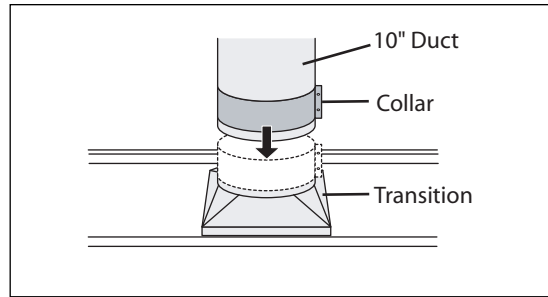

FIG. 9
9. Ducting: There should be no more than 1" gap between canopy transition and house ducting. Adjust starting collar over both ducts. Tighten collar. Fasten duct with screws and tape per code. Screws must not hamper the damper. See Fig. 9.